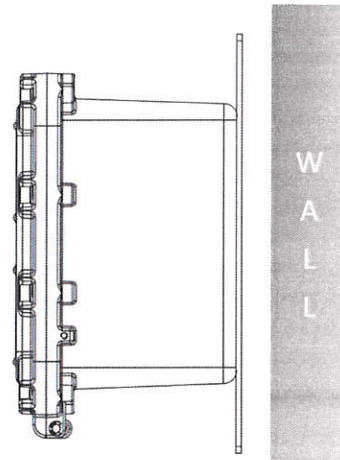

Figure 2
- ☞ The mount bracket is for the use Wall mount (Figure 2)